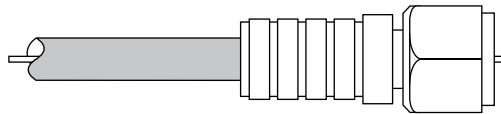

Figure 4-52. Weatherproof F-type connector
4. If the cable already has an F-type connector on it, go to step 5. Otherwise, install an F-type connector (see figure 4-52) onto the end of the cable.